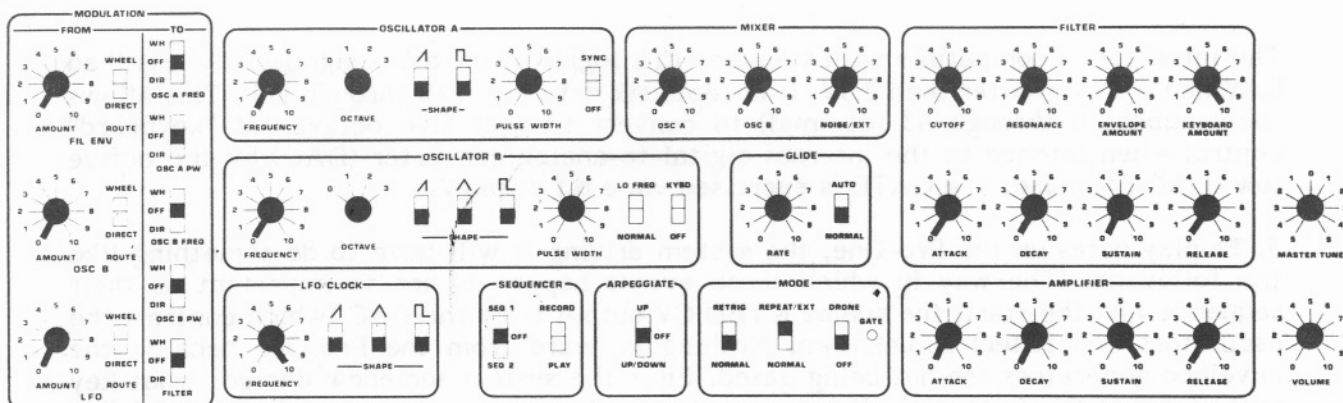

Figure 5-2
1. Patch according to Figure 5-2.